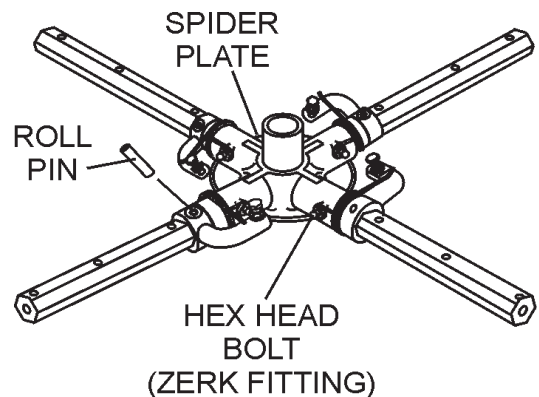

Figure 23. Removing Roll Pin and Zerk Grease Fitting
1. Each trowel arm is held in place at the spider plate by a hex head bolt (zerk grease fitting) and a roll pin. Remove both the hex head bolt and the roll pin (Figure 23) from the spider plate.